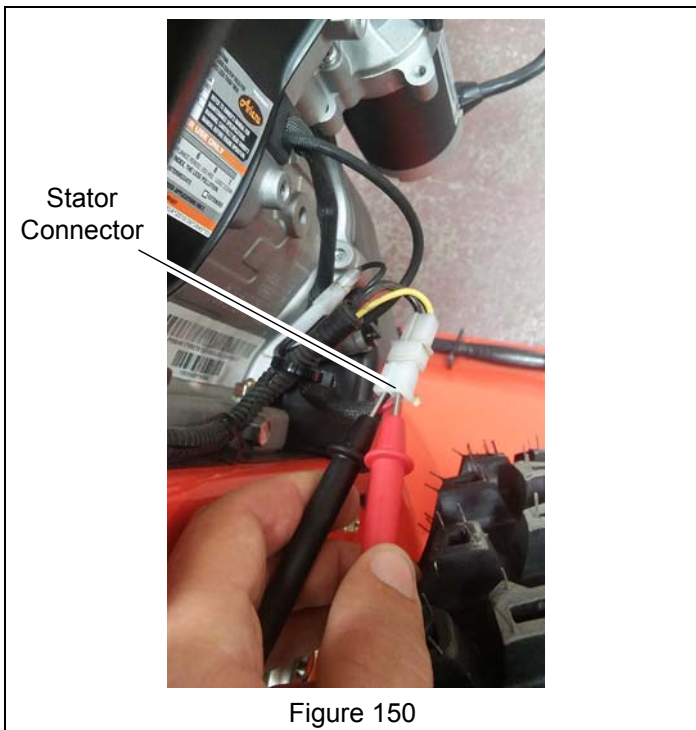

Figure 150
5. Back probe the engine stator output connector. See Figure 150.
If stator output measures over 14 V ac, replace stator. If output is within range, advance to step 3. See Figure 150.